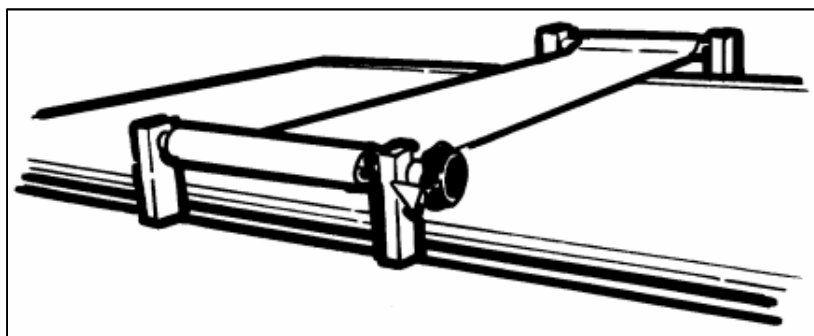

Figure 3-2
- 7 Compression band (optional accessory, see Figure 3-2)